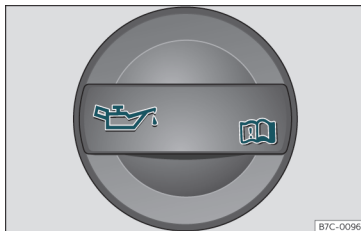

Fig. 258 In the engine compartment: Engine oil filler cap.
- Unscrew cap from engine oil filler opening >>> **Fig. 258**.